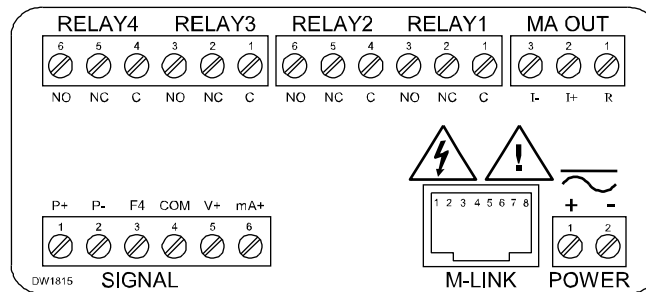

Figure 6. Connector Labeling for Fully Loaded DPM-500
Power connections are made to a two-terminal connector labeled POWER on Figure 6 on page 11. The meter will operate regardless of DC polarity connection. The + and - symbols are only a suggested wiring convention.
Signal connections are made to a six-terminal connector labeled SIGNAL on Figure 6. The COM (common) terminal is the return for the 4-20 mA and the ± 10 V input signals.
Serial communications connection is made to an RJ45 connector labeled M-LINK on Figure 6. For interfacing to the DPM-500, use the PDA1232 for RS-232 or the PDA1485 for RS-485. The same port is used for interfacing with all expansion modules (e.g. external relays, digital I/O).
Relay connections are made to two six-terminal connectors labeled RELAY1 – RELAY4 on Figure 6. Each relay’s C terminal is common only to the normally open (NO) and normally closed (NC) contacts of the corresponding relay. The relays’ C terminals should not be confused with the COM (common) terminal of the INPUT SIGNAL connector.